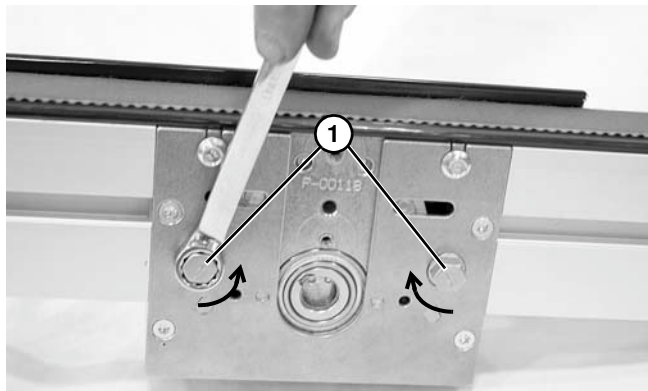

Figure 21
2. Rotate tensioner cams (Figure 21, item 1) in the direction indicated to release tension on belt.